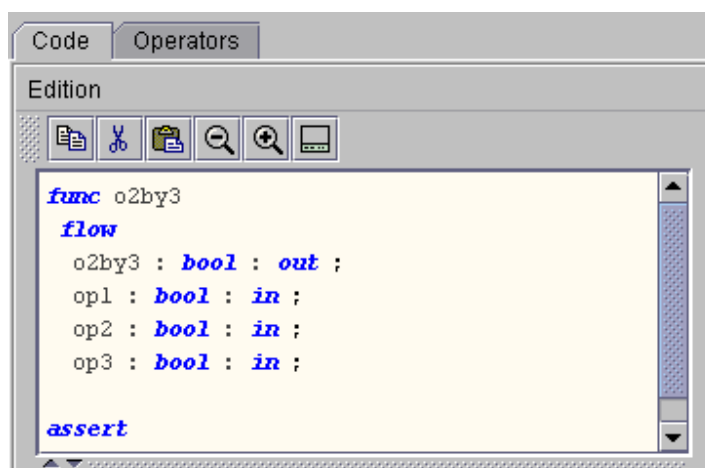

Figure 96 : Operator – Altarica code – Operands
- ♦ A display zone (non editable) for the operands and their types (Figure 96). The Altarcia code displayed in this zone has been automatically generated from the information filled in the **General** tab.